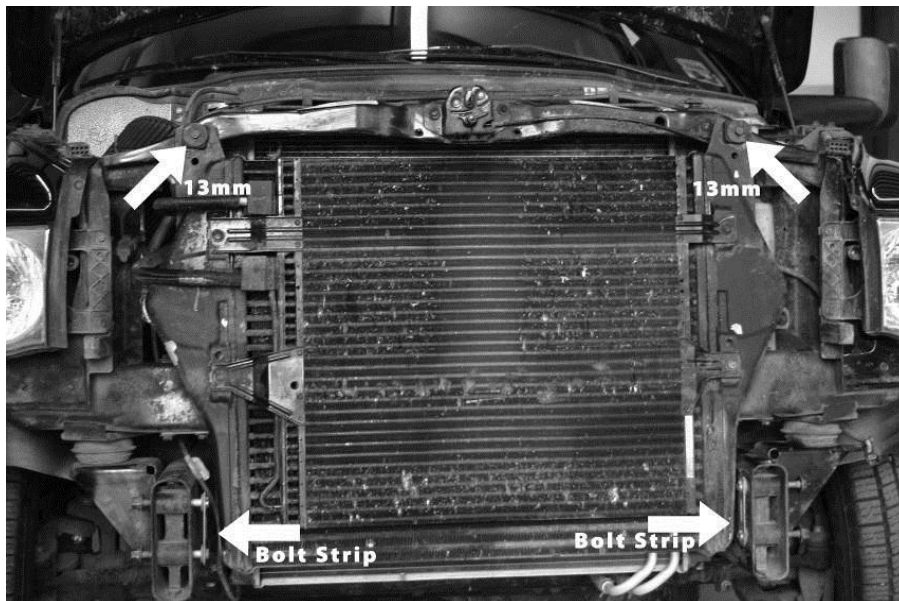

Figure 1 - BOLT STRIP AND INTERCOOLER MOUNT LOCATION
2. Diesel Only: Remove two (10mm or 13mm) bolts holding top of intercooler to radiator support (Figure 1)
7. Re-install and tighten two bolts holding top of intercooler to radiator support (Figure 1); Follow factory torque specification.